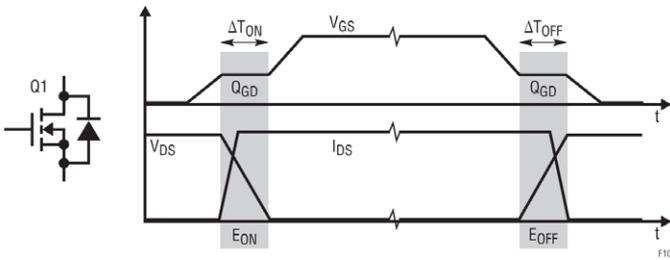

Figure 10. Typical switching waveform and losses in the top FET Q1 in the buck converter
1. MOSFET switching losses. A real transistor requires time to be turned on or off. So there are voltage and current overlaps during the turn-on and turn-off transients, which generate AC switching losses. Figure 10 shows the typical switching waveforms of the MOSFET Q1 in the synchronous buck converter. The charging and discharging of the top FET Q1's parasitic capacitor C_{GD} with charge Q_{GD} determine most of the Q1 switching time and related losses. In the synchronous buck, the bottom FET Q2 switching loss is small, because Q2 is always turned on after its body diode conducts and is turned off before its body diode conducts, while the voltage drop across the body diode is low. However, the body diode reverse recovery charge of Q2 can also increase the switching loss of the top FET Q1 and can generate switching voltage ringing and EMI noise. Equation (12) shows that the control FET Q1 switching loss is proportional to the converter switching frequency f_S . The accurate calculation of the energy losses E_{ON} and E_{OFF} for Q1 is not simple but can be found from MOSFET vendors' application notes.